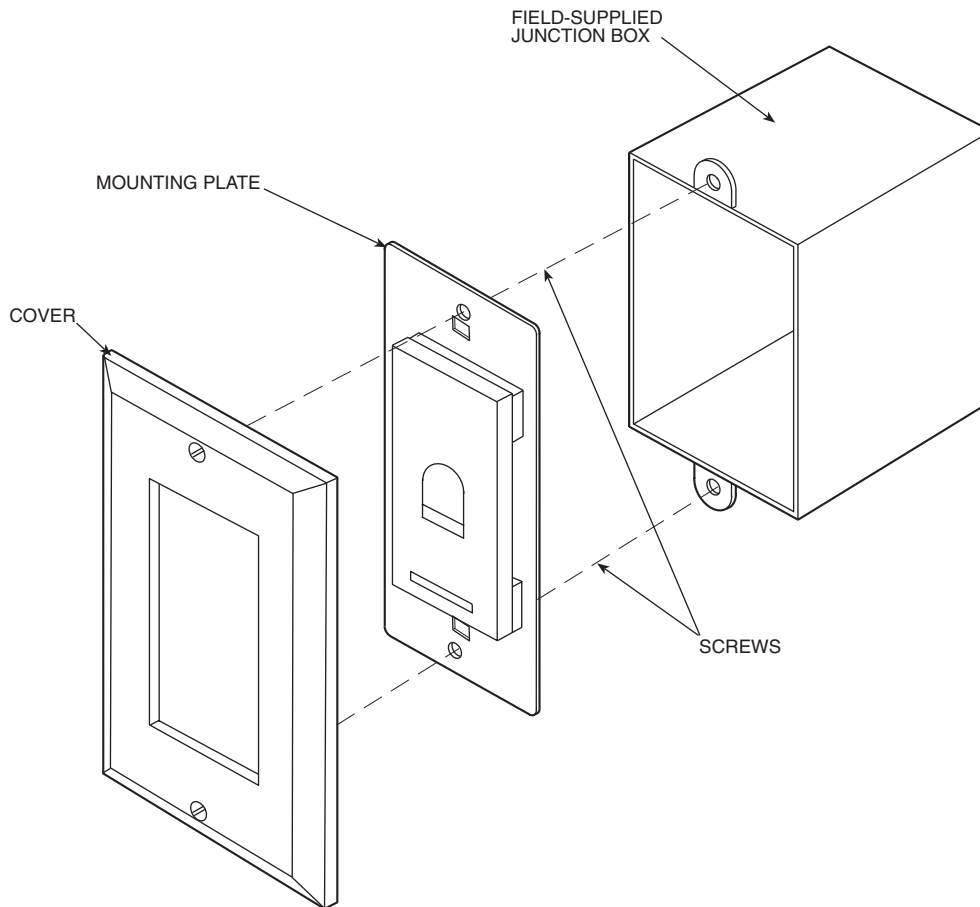

Fig. 3 — Remote Override Timer Installation
7. The RTS2 timer is mounted on the field-supplied single junction box. Place the mounting plate on the junction box. Install the cover over the mounting plate with the 2 screws provided. See Fig. 3.